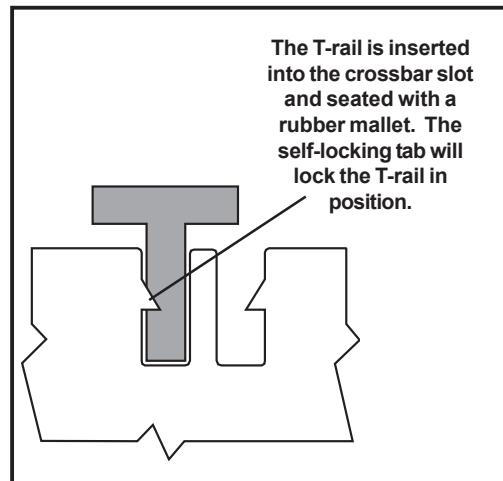

Figure 59
5. Using a rubber mallet, tap the T-rail to fully seat it in the crossbar slot. The self-locking tab will lock the T-rail in position (Figure 59).